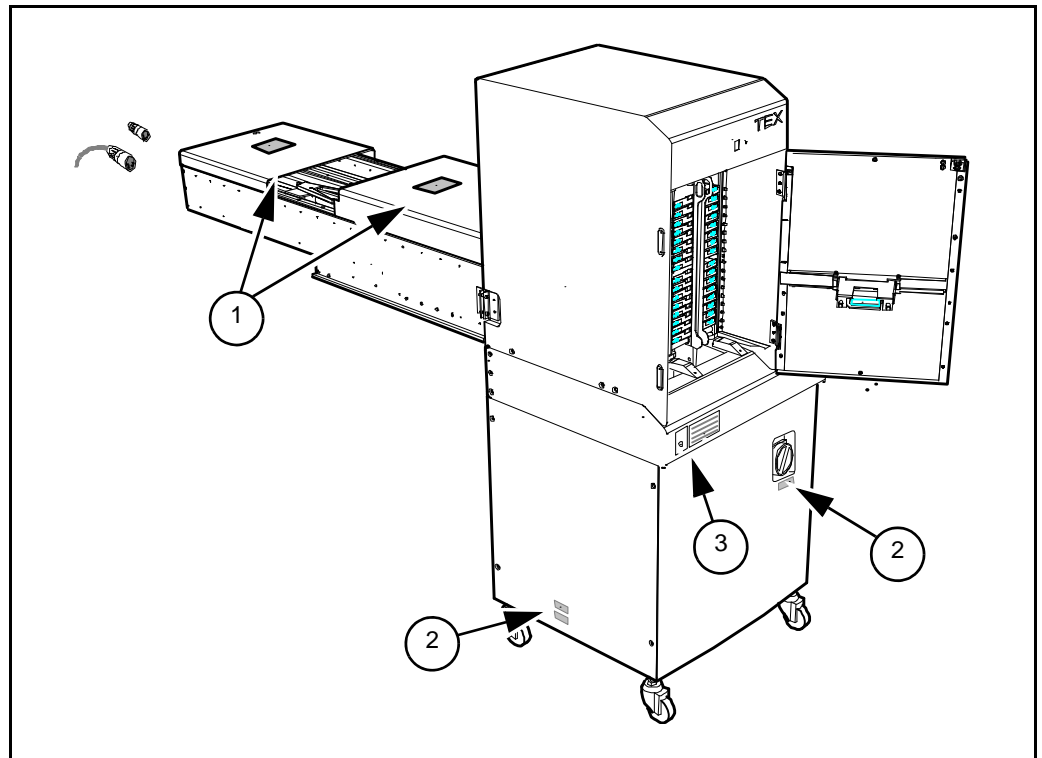

Figure 1-15. TEX Tray Exchanger.
- The front or rear cover is opened ('1' in Figure 1-15).
The warning signs are located as shown in Figure 1-15.
Two warning signs are applied on the safety hoods as shown in Figure 1-15.
Two warning signs are applied as shown in Figure 1-15.
Sign 3 (D-024-0345) states the laser classification for TEX units equipped with laser barcode scanner. One certification sign is applied as shown in Figure 1-15.